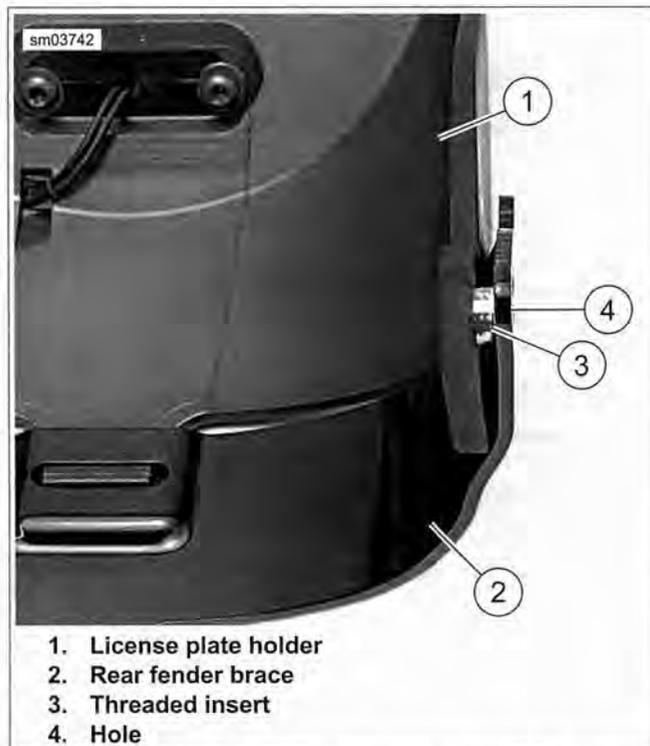

Figure 6-73. License Plate Holder and Rear Fender Brace:
5. Install two screws with washers (4) through fender struts, fender, fender brace and into threaded inserts in license plate holder.
6. See Figure 6-73. Make sure license plate holder threaded inserts (3) fit into holes (4) in fender brace (2). Tighten to 132-216 **in-lbs** (14.9-24.4 Nm).